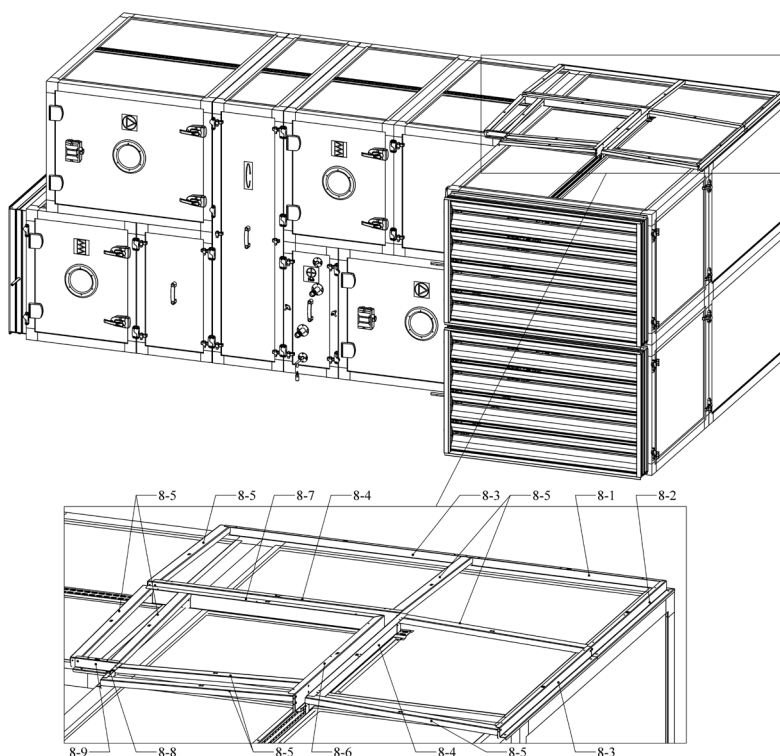

Figure 9.2
2. Start the assembly from the corner section. Connect longitudinal front and middle supports 8-1, 8-2, 8-3, 8-4 to the 6-1-transverse supports using self-taping screws supplied with the unit as shown in Figure 9.2.
3. Assemble the opposite side frame. Connect longitudinal front and middle supports 8-6, 8-7, 8-8, 8-9 to the 8-5 transverse supports using self-taping screws supplied with the unit as shown in Figure 9.2.